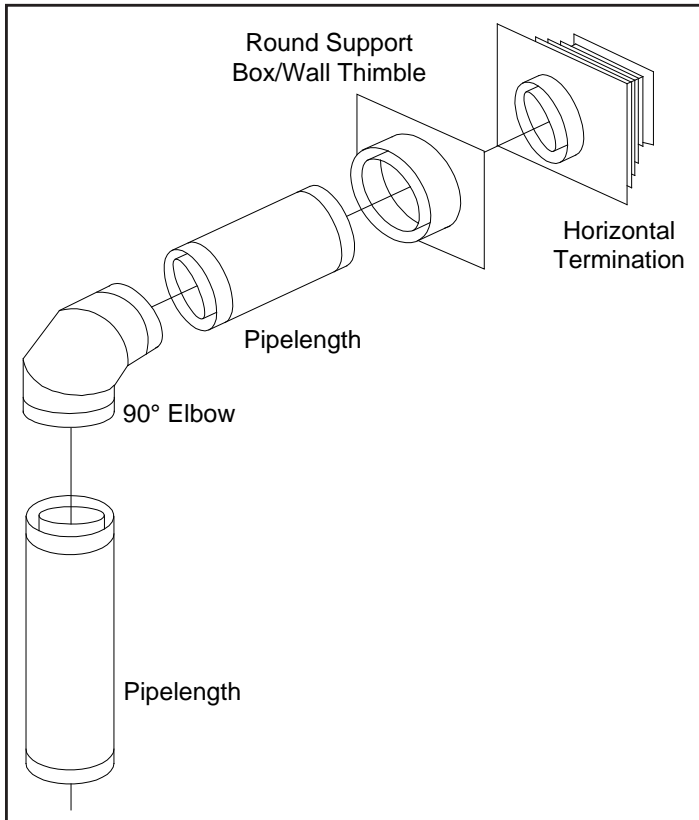
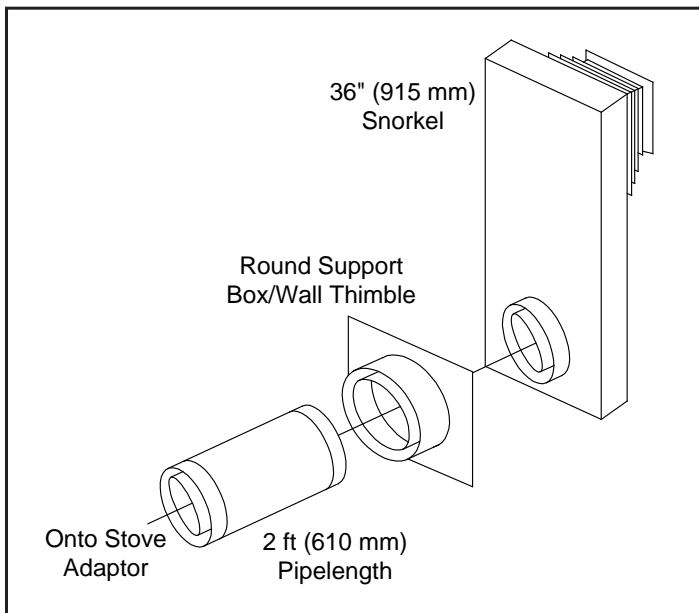

Figure 18: Common Horizontal Installation.
Figure 20: Common Snorkel Installation.
There are three (3) basic types of Direct Vent System installations. The three (3) types of installations are shown in Figure 18 through Figure 20.